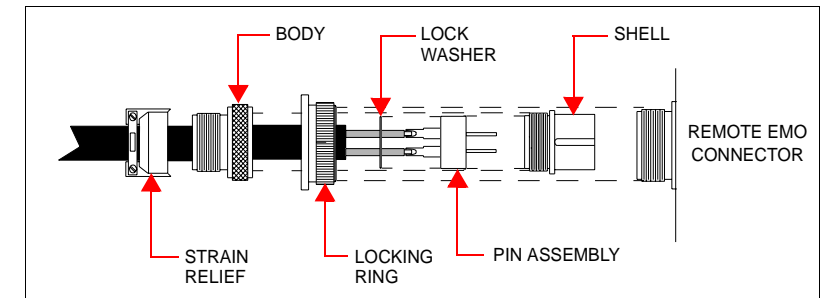

Figure 3: EMO Cable Connections
- 6) Connect the **EMO remote** cable, if available. See Figure 1E and Figure 3.